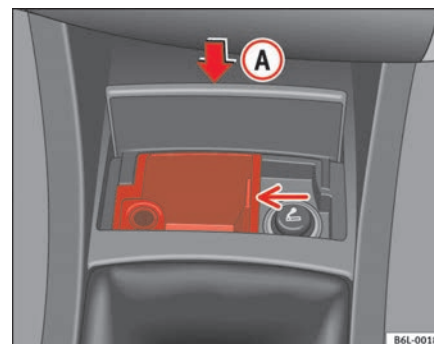

Fig. 85 Front ashtray
- Press the lower part of the ashtray cover (A) ⇒ fig. 85 and it will open automatically with a spring action.